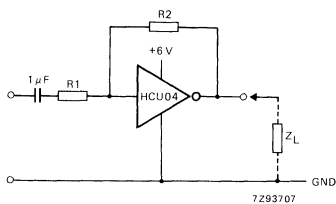

Fig. 12 HCU04 used as a linear amplifier.
- Linear amplifier (see Fig. 12).
### Note to Fig. 12